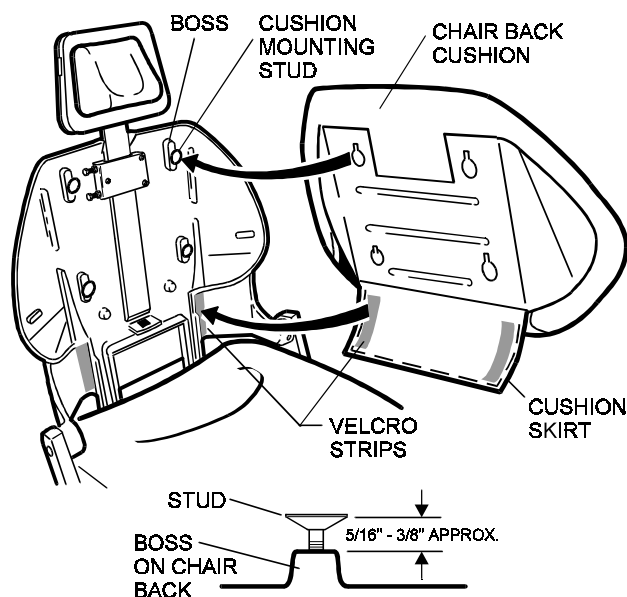

**Figure 11**
The seat back is mounted over the four large head studs in the chair back (see Figure 11). Use the following instructions after first raising the back to a convenient height for installing the cushion.
1. Before installing the chair back cushion, turn the four cushion mounting studs counter clockwise until they are approximately 5/16 to 3/8 inches from the top of the boss (See Figure 11).
2. Position the chair back cushion on the chair back and align the four cushion mounting studs with the holes in the chair back cushion (See Figure 11).